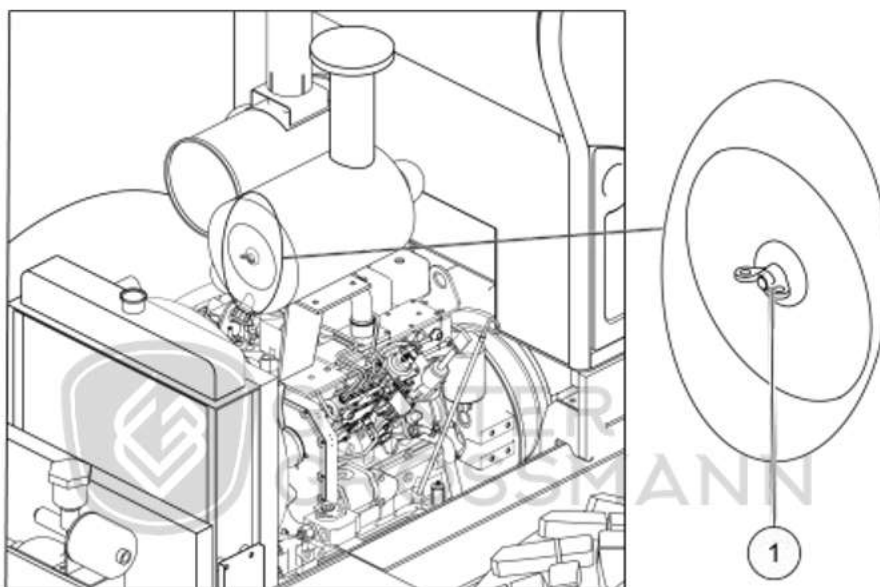

Figure 6-35 Replacing the air filter
Step 2: Unscrew the nut (1) of the air filter, and remove the filter cover (2), as shown in Figure 6-35;